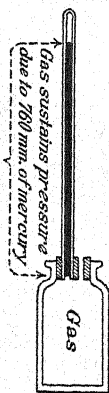

FIG. 57. — The gas is under a pressure equal to that of one atmosphere.
**58. The Barometer.** A simple barometer consists of a Torricellian tube which has been fitted with a graduated scale so that the height of the mercury can be easily measured. Of course the height of the mercury column will vary as the pressure of the air changes slightly from day to day. The student must remember as he works with gases in the laboratory that a bottle of gas is at all times under pressure due to the atmosphere. Figure 57 shows that a bottle of gas standing on the laboratory desk really sustains a pressure equivalent to that of the air pressure. For exact measurement at a given time one has merely to read the barometer.